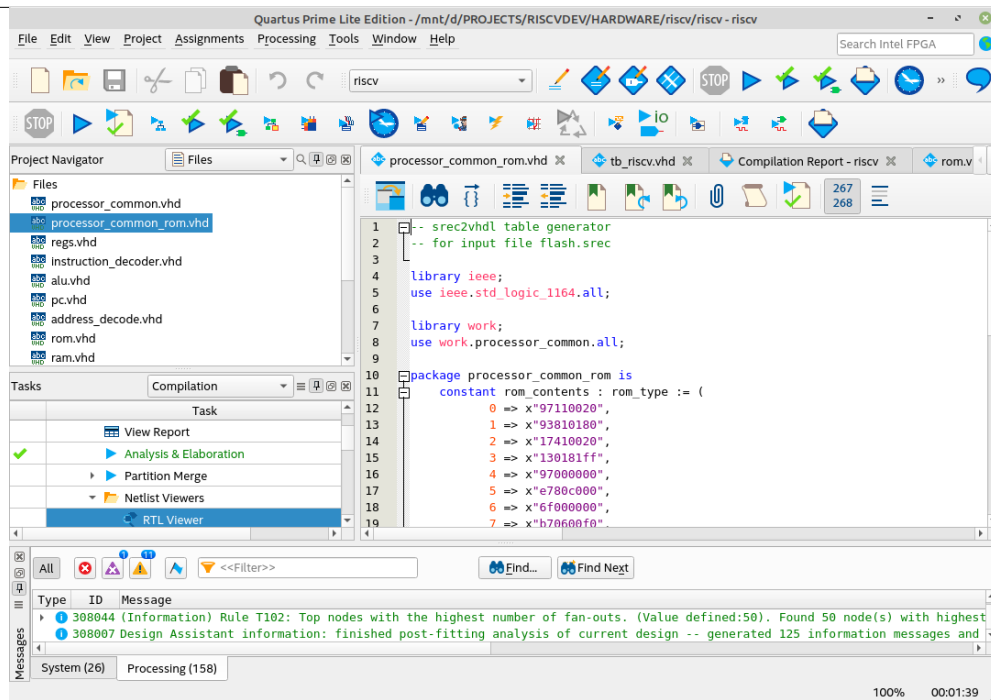

Figure 4: Image of the Quartus project (1).
- Now start the compilation of the VHDL code in Quartus Prime Lite and program the compiled file. This file has the extension .sof. See Figures 4 to 6.